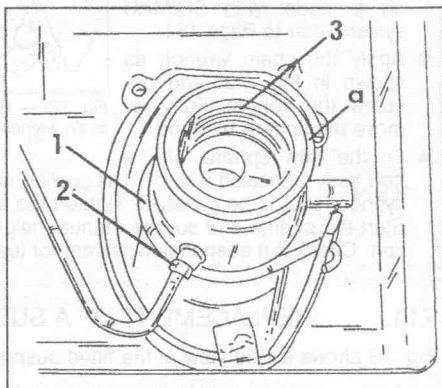

Fig. 7.4. — End view of a suspension cylinder after removal of the sphere.
- From the end of the cylinder disconnect the cylinder supply pipe union nut (2, Fig. 7.4).
- At the sphere connection end you will find a wire clip (1, Fig. 7.4) which must be removed to free the cylinder. The cylinder can now be removed. With the suspension arm hanging free, guide the suspension rod between the stop and the rear part of the sub-frame and withdraw the cylinder.
During installation, first engage the suspension rod and then place the cylinder in position. Re-connect the supply line with a new seal and re-connect the overflow return pipe and the vent pipe to their original connections, near the fitting position of the rubber gaiter. Fit the retaining clip for the suspension rod at the suspension arm end and the wire clip (1) in Fig. 7.4 to the sphere end.
Grease the cylinder support face "a" in Fig. 7.4 and fit the suspension sphere with a new seal and tighten the sphere as tight as possible by hand.